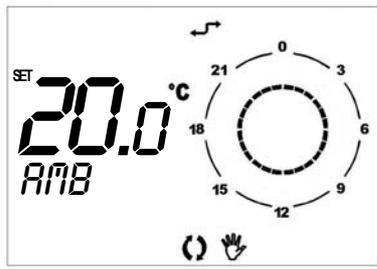

Figure 8 – Forced automatic mode
- **FORCED AUTOMATIC** operation: noted by the presence of both the automatic and manual icons (see Figure 8).